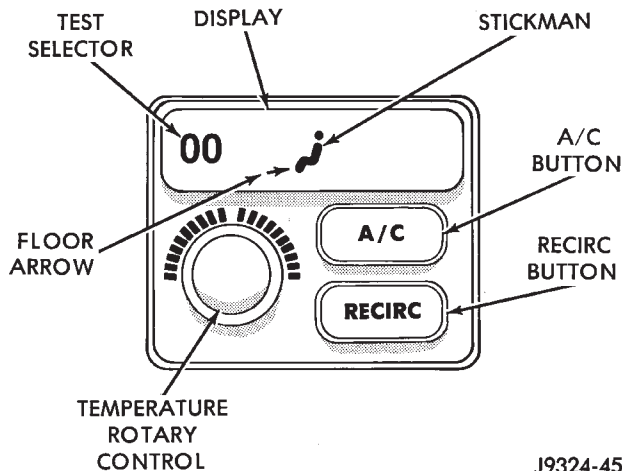

Fig. 13 Test Selector Values Below Zero
(1) The Select Test mode will have only 00 displayed in the Test Selector, and no stick man will be displayed. This is the self-diagnostic mode from which the various tests may be selected.
(2) If the stick man floor arrow (bottom) is showing, the displayed Test Selector value will be a range of numbers below zero (Fig. 13).